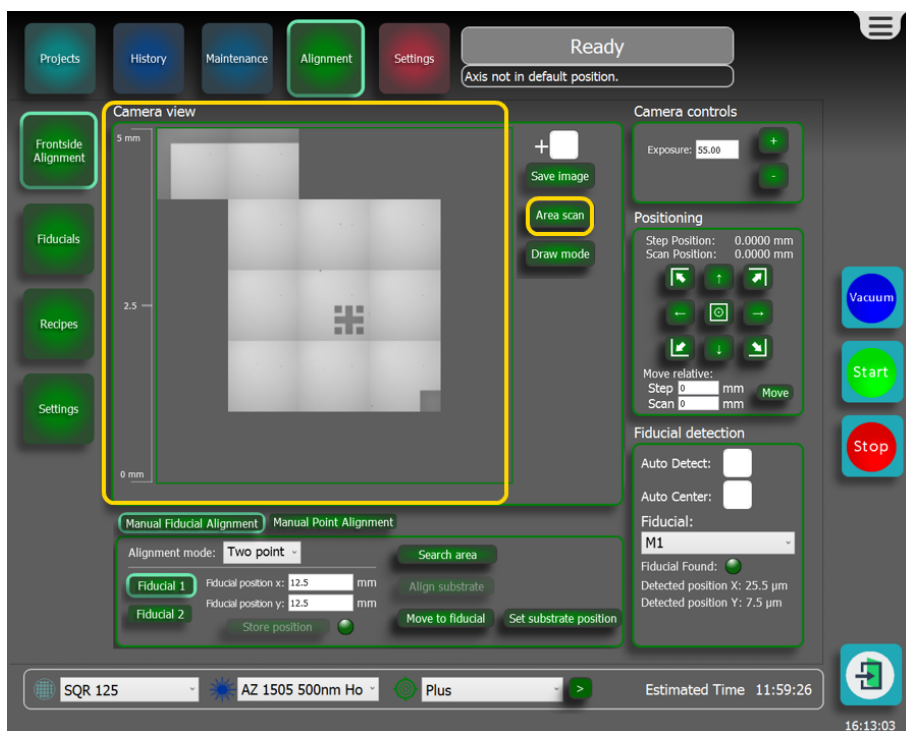

Figure 3-81 Area scan
7. If the fiducial marker is not immediately visible, click on **Area scan**, see Figure 3-81.